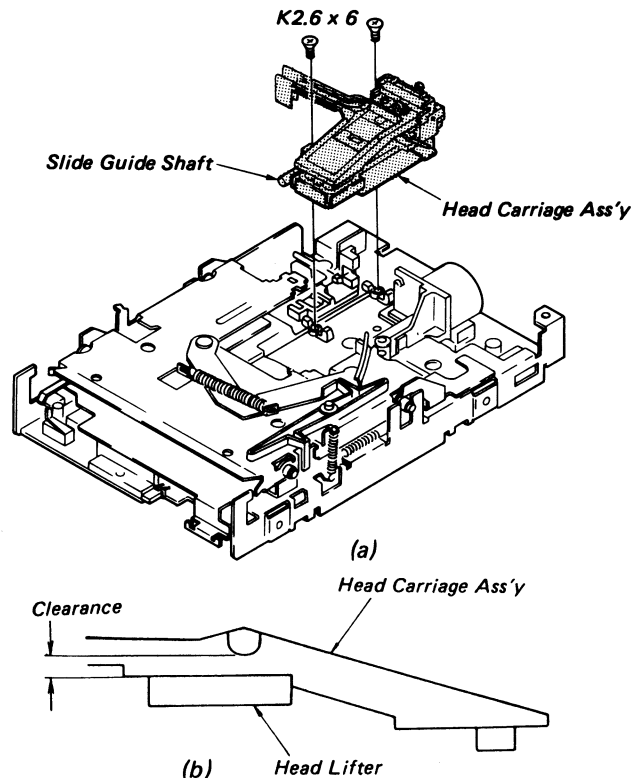

Fig. 4-7 Head Carriage Ass'y Replacement
- Remove the two screws (K2.6x6) securing the Head Carriage Ass'y and then remove the Head Carriage Ass'y and slide guide shaft. (Refer to Fig. 4-7 (a))
- Install the Head Carriage Ass'y and the guide shaft in place. (Refer to Fig. 4-7 (a))
- Insert the level disk and check if the clearance between head arm and head lifter is kept as shown in Fig. 4-7 (b).